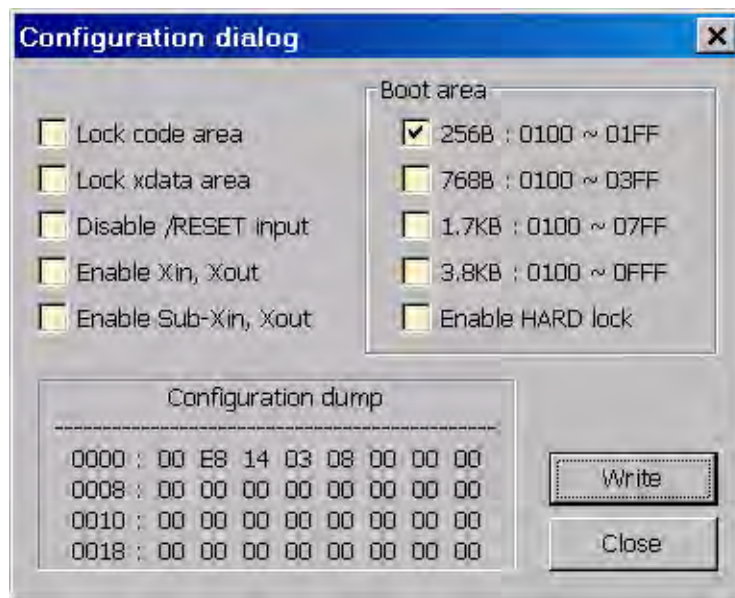

Figure 17. Configuration Dialog
7. Click the **Download** button to open the Configuration dialog box, shown in Figure 17.